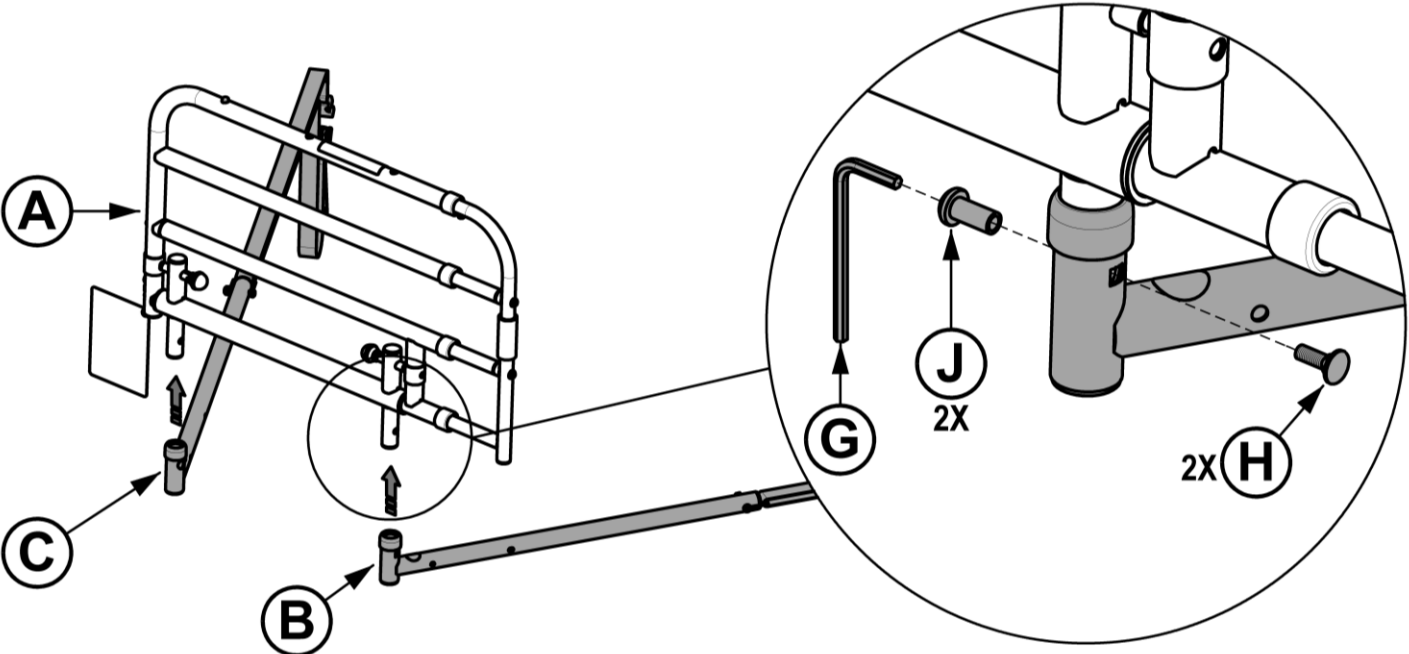

FIGURE 3
3. Fit Leg **B** over post on Bed Rail **A** and align holes. Fully insert **H** in the square hole, then insert Bolt **J** from the other side and tighten using Tool **G** to secure Leg **B**, as shown in *FIGURE 3*. Repeat to attach Leg **C** to **A**.